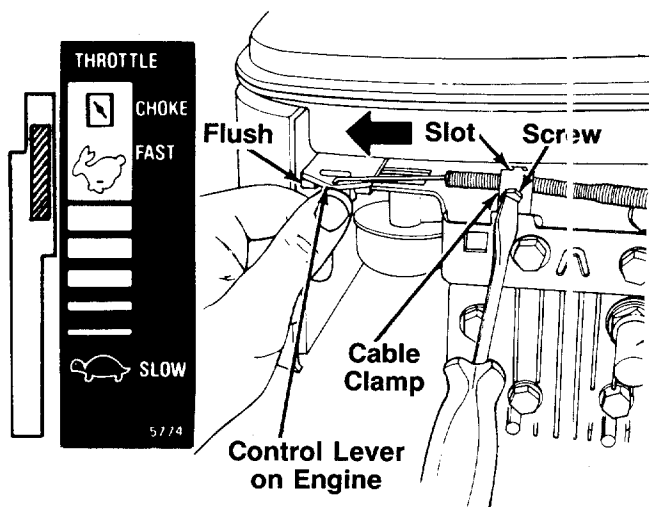

FIGURE 5.
1. Push the throttle control lever on the handle all the way forward to CHOKE, then back it off **two "clicks"** (approximately 5/16"). See figure 5.
2. The throttle control cable is attached to the upper handle. Route the throttle control cable under the lower handle and inside the handle mounting bracket on model 166B. On model 176B, route the throttle control cable under the lower handle and to the outside of the handle mounting bracket and catcher panel. Hook the "Z" end of the throttle control cable into the hole in the control lever on the engine. See figure 5.
3. Using a 5/16" wrench or nutdriver, remove the screw on the cable clamp shown in figure 5. Slip the control cable under the clamp. Replace the screw (cable should be above the screw), but do not tighten screw (cable must still move freely beneath the clamp). Make certain the tab on the cable clamp is seated into the slot on the engine. See figure 5.
4. Push the control lever on the engine as far toward the **outside** of the engine as it will go. The edge of the control lever should be flush with the bracket on the engine. See figure 5. Hold the control lever in this position as you tighten the screw on the cable clamp to secure the throttle cable.